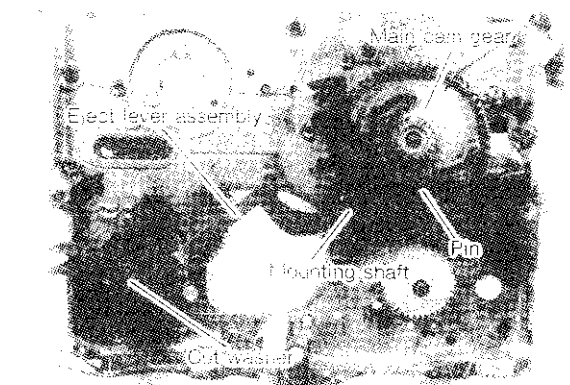

Fig 3-22-3
- (1) Attach the mounting shaft of the eject lever assembly to the main shaft and fix with the cut washer. (See Fig. 3-22-3).
- (2) Attach the washer of the eject lever assembly to the mounting shaft of the eject lever assembly and fix with the cut washer.
- (3) Adjust position of the eject lever assembly so that the eject lever assembly is at the appropriate position and fix with the cut washer.